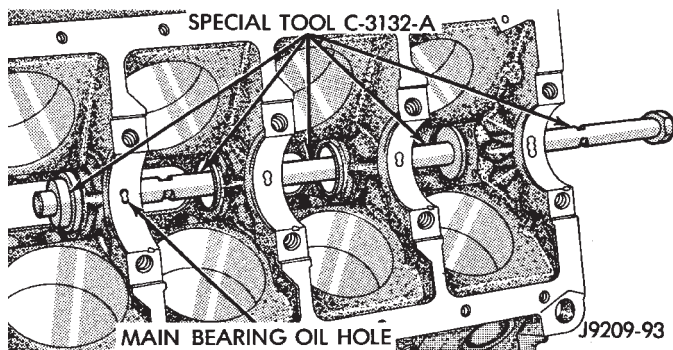

Fig. 11 Camshaft Bearings Removal and Installation with Tool C-3132-A
- (1) With engine completely disassembled, drive out rear cam bearing core hole plug.
- (2) Install proper size adapters and horseshoe washers (part of Camshaft Bearing Remover/Installer Tool C-3132-A) at back of each bearing shell. Drive out bearing shells (Fig. 11).